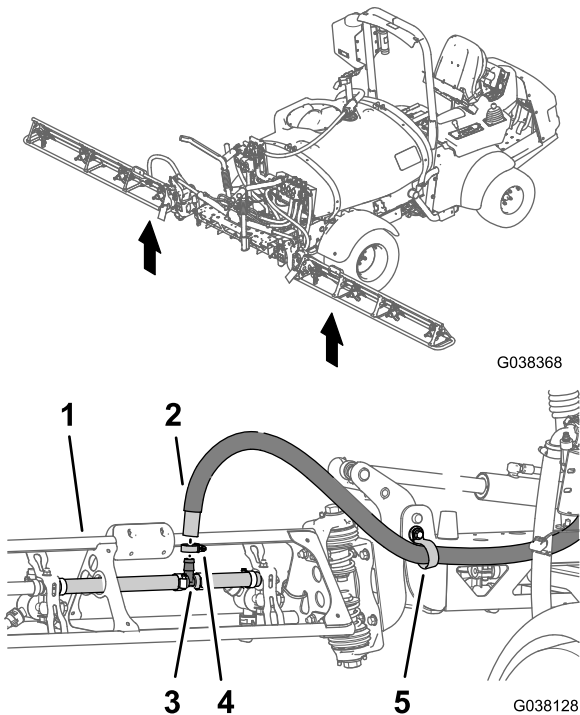

Figure 14
1. At the outer-boom section, remove the hose clamp that secures the supply hose for the boom section to the barbed T-fitting (Figure 14).
2. Remove the hose from the T-fitting (Figure 14).
3. Remove the free end of the hose from the R-clamp (Figure 14).